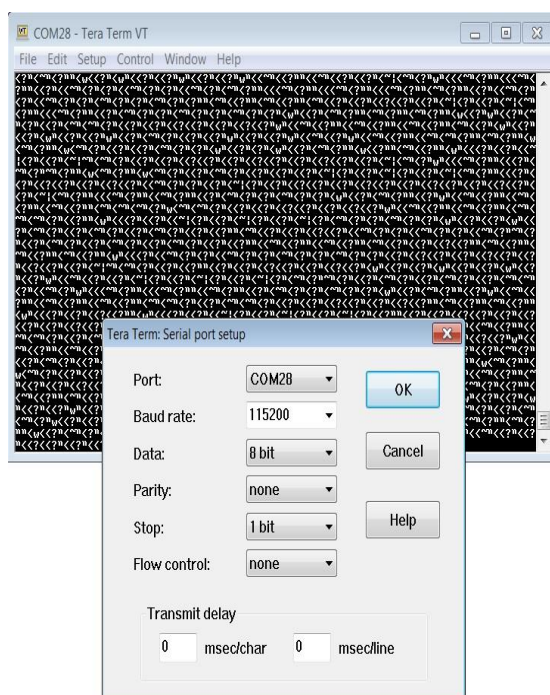

Figure 9: Setting Up the Port and Testing Connectivity via Tera Term
5. Select Setup > Serial Port and configure your UART port using the parameters shown in **Table 1** (you need to be an administrator on your local machine), see **Figure 9**.